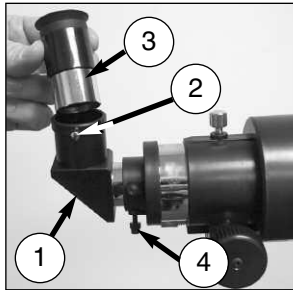
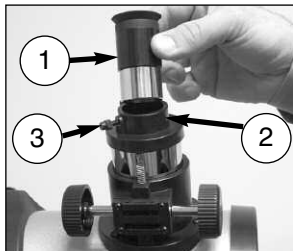

Fig. 10: Attach the diagonal prism (1), tighten prism thumbscrews (2), insert the eyepiece (3), tighten eyepiece thumbscrews (4) (Reflector models).
Fig. 11: Insert the eyepiece (1) into the eyepiece holder (2), tighten eyepiece thumbscrew (3) (Reflector models).
11. **Insert the eyepiece:** Remove the supplied eyepiece (**3, Fig. 10**) from its container and place it in the diagonal prism (*refractor models only; 1, Fig. 10*) or directly into the eyepiece holder (**2, Fig. 11, reflector models only**). Tighten the thumbscrews (**2 and 4, Fig. 10, refractor models only**) to a firm feel only. Tighten the thumbscrew (**3, Fig. 11, reflector models only**) to a firm feel only.